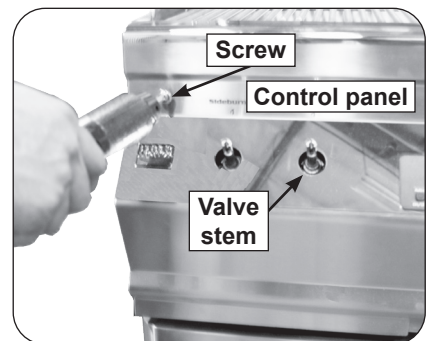

Fig. 2-3 Remove control panel
8. With the burner valves in the **OFF** position, pull the valve knobs from their stems. Use a Phillips screwdriver to remove the control panel fastener screws on either side of the grill control panel (see Fig. 2-3). Release the control panel by lifting it slightly and remove it from the grill. Make sure to retain the screws and finish washers for re-attaching the control panel.